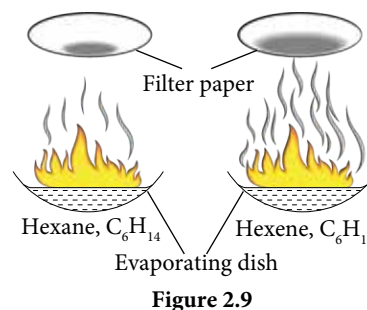

Figure 2.9
- When hexane, C_6H_{14} starts to burn, place a piece of filter paper above the flame as shown in Figure 2.9.